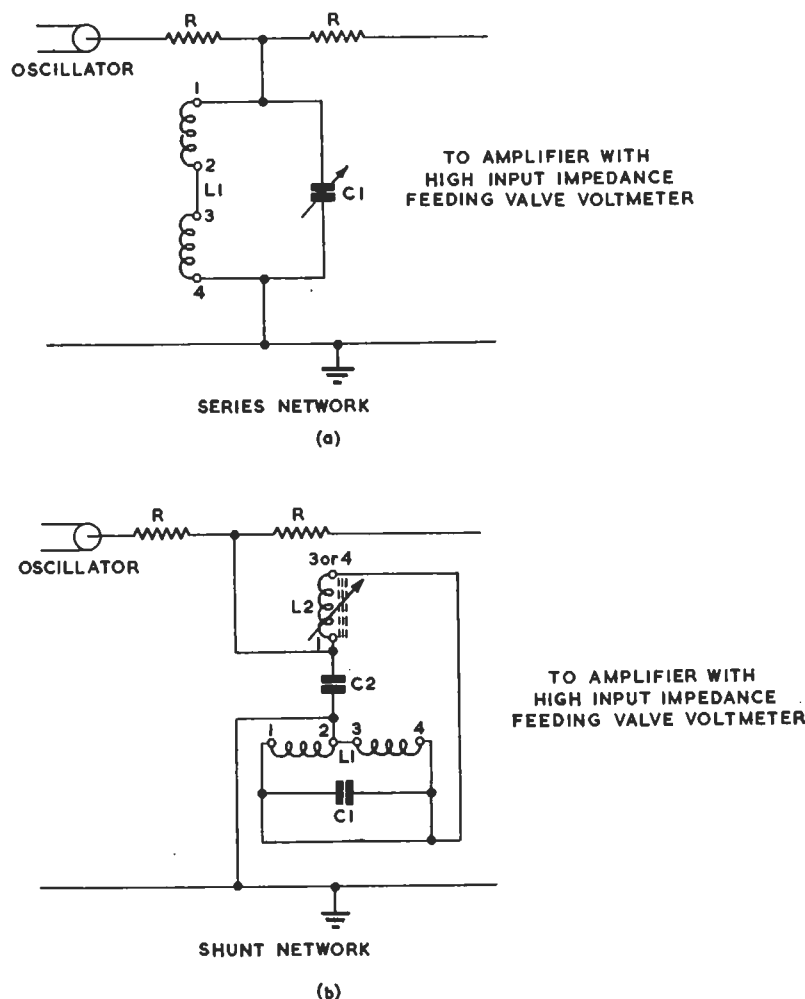

Fig. 7.3. Circuit Arrangement for Alignment of Phase-correcting Sections
3. Connect the series-arm network (L1, C1, etc.) in the circuit of Fig. 7.3(a). Adjust the value of C1 by means of a parallel-connected trimmer until the circuit is resonant at its nominal frequency, as indicated by maximum valve voltmeter reading. After adjustment the trimmer rotor should be locked in position. Repeat for coils of the other sections. The minimum values of the resistors R
of Fig. 7.3(a) and the tolerance in the resonant frequencies are given in the Table below.
4. To adjust the value of the shunt-arm inductance (L2, etc.), the series and shunt arms should be connected in the circuit of Fig. 7.3(b). Adjust the position of the core of L2 until the circuit is resonant at its nominal frequency, as indicated by
position with benzene or amyl-acetate. The minimum values of the resistors R of Fig. 7.3(b) and the tolerance in the resonant frequencies are given in the Table below.